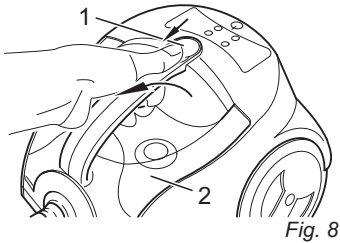

Fig. 8
2. Pull the release button (Fig. 8/1) back and remove the water tank (Fig. 8/2) from the back by tipping it.